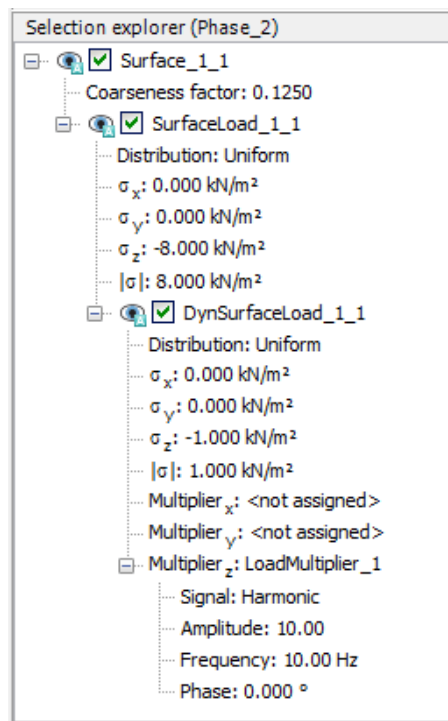

Figure 130: Applied load in the Phase_2
7. In the **Staged construction mode** activate the dynamic component of the surface load. Note that the static component of the load is still active (see Figure 130 (on page 157)).